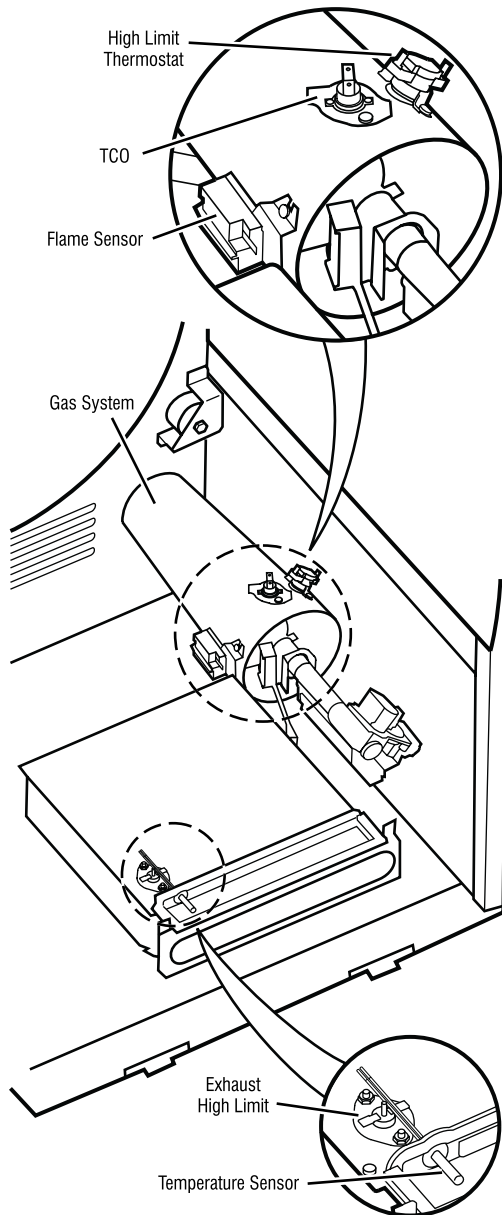

Figure 6. Thermal Components, viewed from front
2. Remove the toe panel to access the thermal components. See Removing the Toe Panel, page 6-30. Locate the components using Figure 6.
4. Locate the high limit thermostat. See Figure 6. Measure the continuity through it by connecting the meter probes on the black wires.
- Check wire connections at the machine control electronics and temperature sensor. See Accessing & Removing the Electronic Assemblies, page 6-28, and Figure 6 for temperature sensor location.
- If wire connections are good, remove the two wires from the temperature sensor and replace the temperature sensor. See Figure 6.